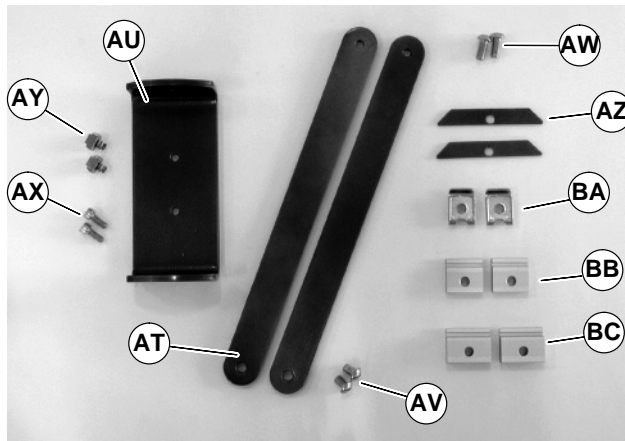

Figure 34
1. Gather attachment components (Figure 34).